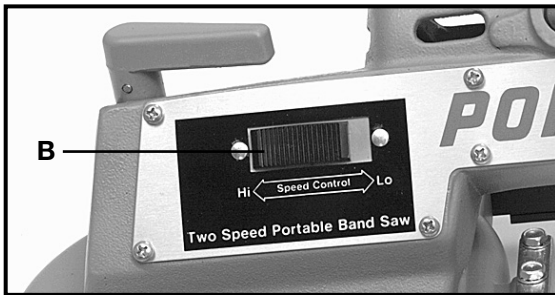

Fig. 2
The Two-Speed Band Saw is equipped with a speed changing switch (B) Fig. 2. For LOW-SPEED cutting, slide the switch bar toward “LO”. For HIGH-SPEED cutting, slide the switch bar toward “HI”.